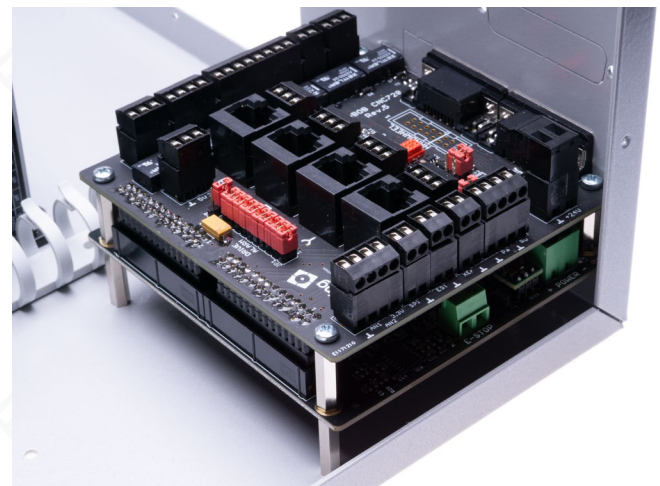

Fig. 11: Mounting of controller and Simple BOB
- Connect the controller **10** and the breakout board **11** with screws **S2** and the spacers **D1** and **D2**, as shown in Fig. 11.
- Mount the combination with screws **S2** on the floor and the SUB-D screw connections on the rear wall of the housing. See Fig. 11 and 12.